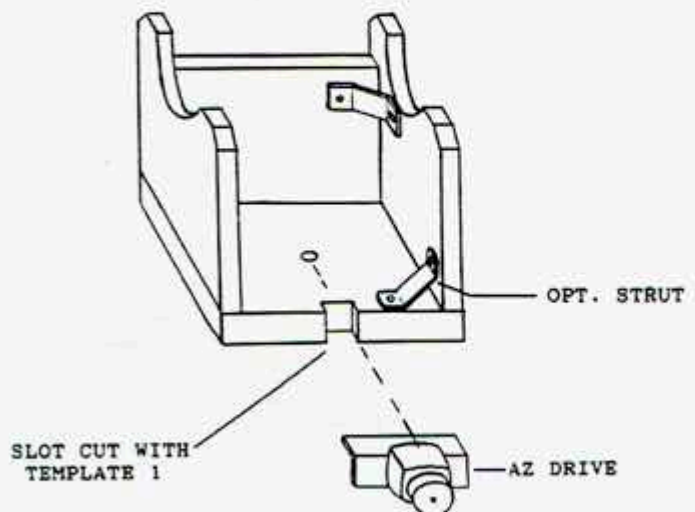

FIG 1 - AZ DRIVE INSTALL
Refer to fig 1 and template 1. The azimuth drive motor installs in a cut out notch at the center rear of the base of the turret and rotates the turret clockwise or counter-clockwise with it's drive wheel. WHEN DONE, THE WHEEL AXLE OF THE DRIVE MUST POINT TO THE PIVOT BOLT OF THE BASE. MAKE SURE THE DRIVE WILL NOT INTERFERE WITH YOUR PARTICULAR SCOPE DURING MOVEMENT IN ALTITUDE.
3. Drill 2 holes (any size) clear through the base at the inside corner marks to make it easy to cut around corners. Cut out the notch along your lines using a hand scroll saw, drilling a row of holes, or whatever means you have. It doesn't have to look pretty since the drive bracket will cover it. It should look like fig 1.
5. See fig 1. Metal bracing struts diagonally placed high in the front corners, and at the bottom rear near the drive, especially on larger/taller turrets can perform two beneficial functions...